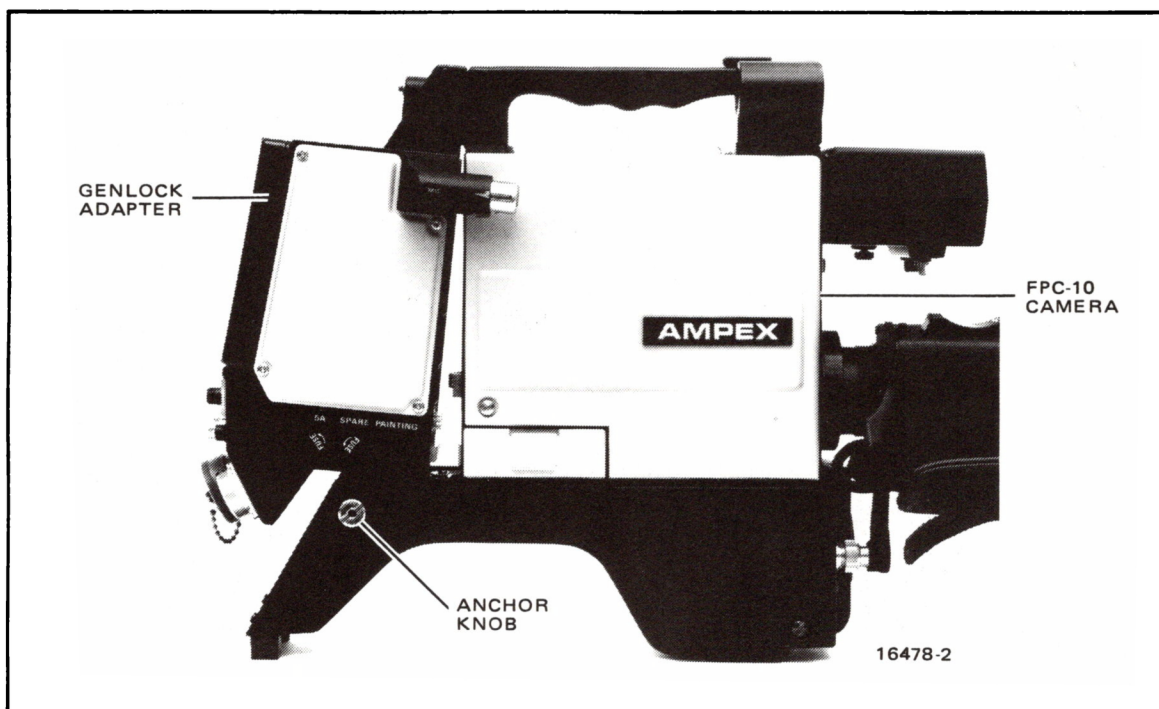

Figure 6-4. Attaching Genlock Adapter to FPC-10 Camera
- STEP 3 The genlock adapter is attached to camera in same manner as the VTR. See Figure 6-4. Align mounting wedges of genlock adapter and camera